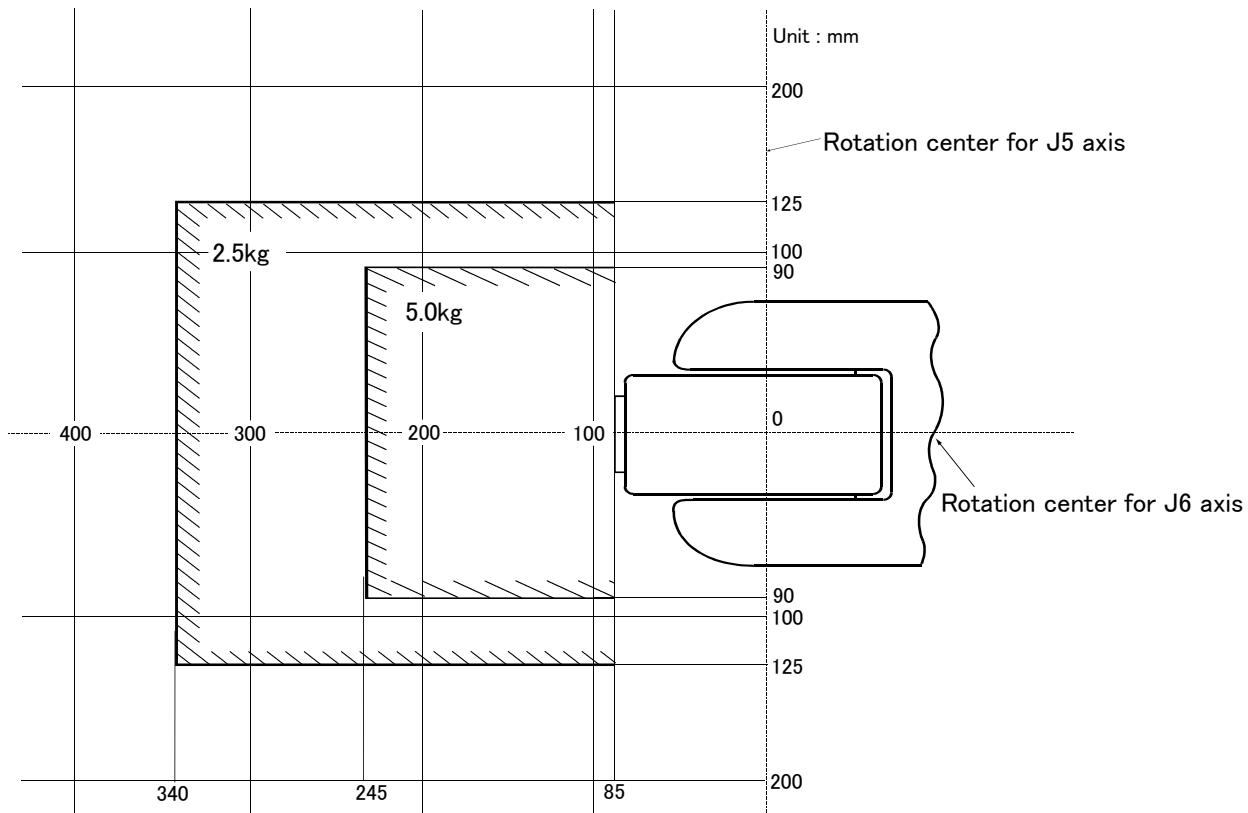

Fig.2-1 : Position of center of gravity for loads (for loads with comparatively small volume):RV-6SD/6SDLSeries
- (1) The tooling should have the value less or equal than the smaller of the tolerable inertia and the tolerable moment found in Page 7, "Table 2-1 : Standard specifications of robot"
- (2) Fig. 2-1 shows the distribution dimensions for the center of gravity in the case where the volume of the load is relatively small. Use this figure as a reference when designing the tooling.
- (3) When the load is not mass, but force, you should design the tooling so that it does not exceed the value for allowable moment described in Page 7, "Table 2-1 : Standard specifications of robot"